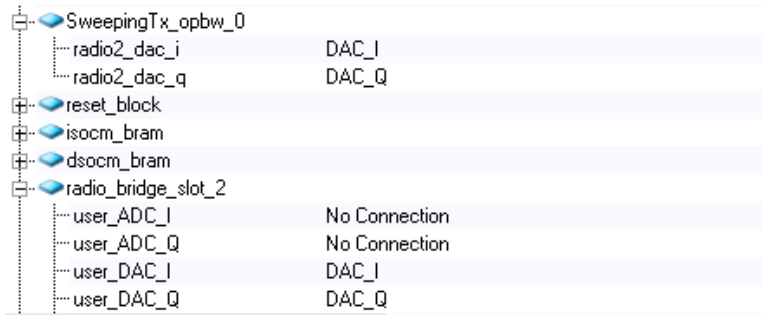

Figure 2: Custom core and radio bridge ports
7. When complete, your ports list should look like those shown in Figure 2.